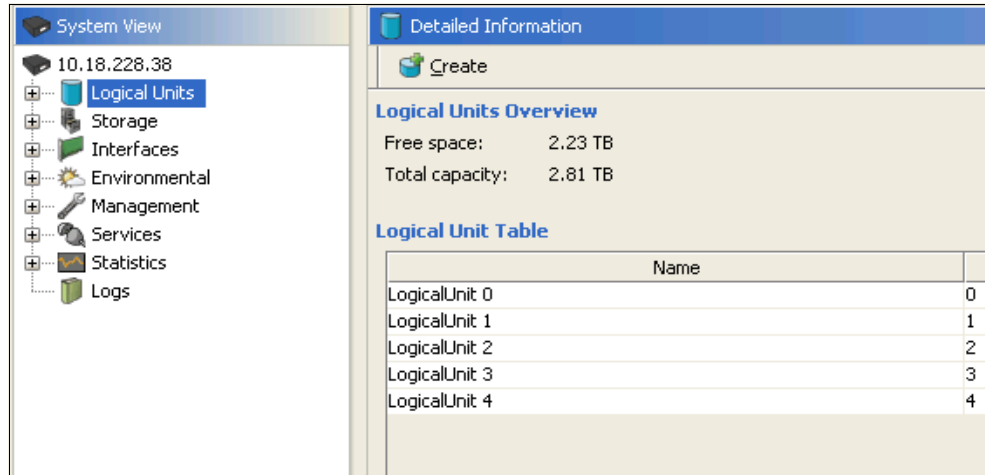

Figure 5-3 Logical unit creation main window
1. Click **Logical Units** in the left pane, and the window shown Figure 5-3 opens.